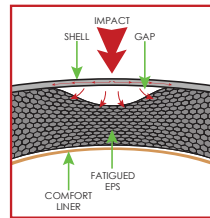

Fig. 1
- 1) Thread the end of the strap through both D Rings and pull tight. (see Fig. 1)
Always wear the helmet in the correct position. (see Fig. 1) Always fasten the chinstrap securely to retain the helmet in the proper position on your head. Not wearing the helmet in the correct position, and not properly securing the chinstrap snugly, can result in **severe head injury or even death**. Helmets must fit snugly, but not painfully tight. While holding the chinstraps outside of the helmet, pull it down over your head, taking care that the chinstraps do not go up inside the helmet. A proper fitting helmet will feel snug and have consistent pressure around the circumference of your head as well as throughout the crown/top of your head. **Always fasten chinstrap snugly before riding.**
At FLY Racing, we encourage you to enjoy riding responsibly and to always ride within the limits of your abilities. FLY Racing recommends that you check your helmet for damage before every use. Do not use helmet if damaged. If you find cracks or damage to the helmet, stop using the helmet immediately. Be aware that some damage may be unseen. FLY Racing helmets are designed to absorb one impact. Even if the helmet appears to be undamaged, the helmet's inner EPS (Expanded PolyStyrene) liner may have been damaged and the helmet can no longer effectively absorb and disperse further impacts. (See Fig 1) Once this has happened, the helmet is no longer safe to use and must be destroyed. Even without a crash or impact, a helmet may wear out over time, depending on usage and the amount of care that it is given. It is recommended to replace a helmet after three years from the time of purchase, even if there is no visible damage. With hard or frequent use, this time may be reduced. Even with minimal use things like fire, heat, acid, oils in sweat, hair care products, pollution, solvents, cleaners, exposure to ultra violet rays, corrosive dirt or mud, etc. and mishandling affect a helmet.